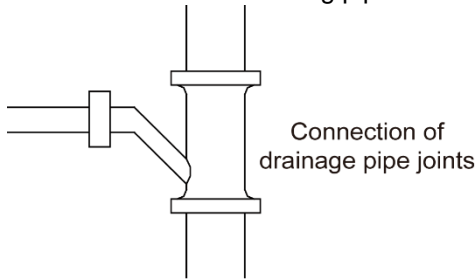

Fig. 14
- Connection of drainage pipe joints (Fig. 14)